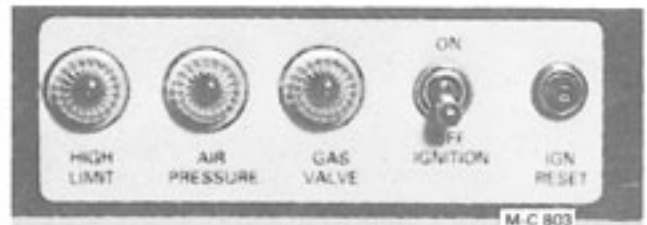

Figure 10
8. If after several attempts for ignition there is still no flame, push the 0.1 (1/10th) amp. ignition reset button (circuit breaker) on the control panel, see Figure 10. This circuit breaker protects the ignition board from heat build up due to repeated ignition attempts.